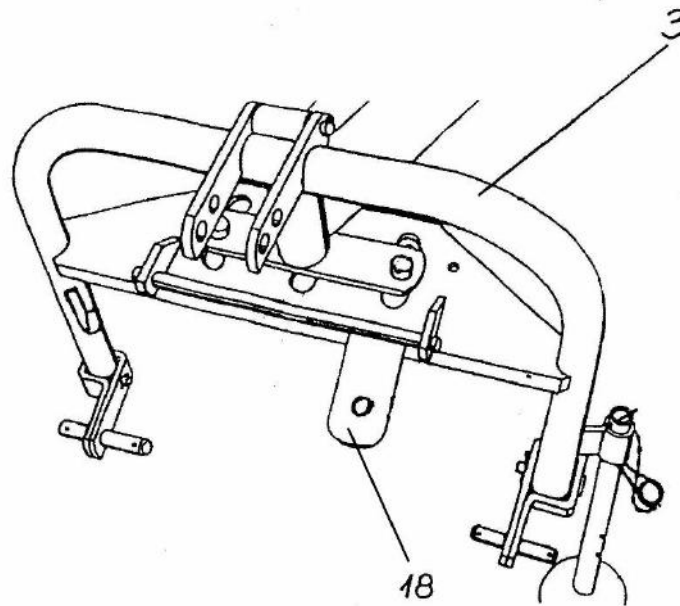

Fig. 9 Setting latch to operating position.
Setting of latch 18 to operating position is presented in figure 9. In this state, the hay rake may perform limited sideways movement relative to tractor.
3. Set latch 18 to operating position, as shown on figure 9.